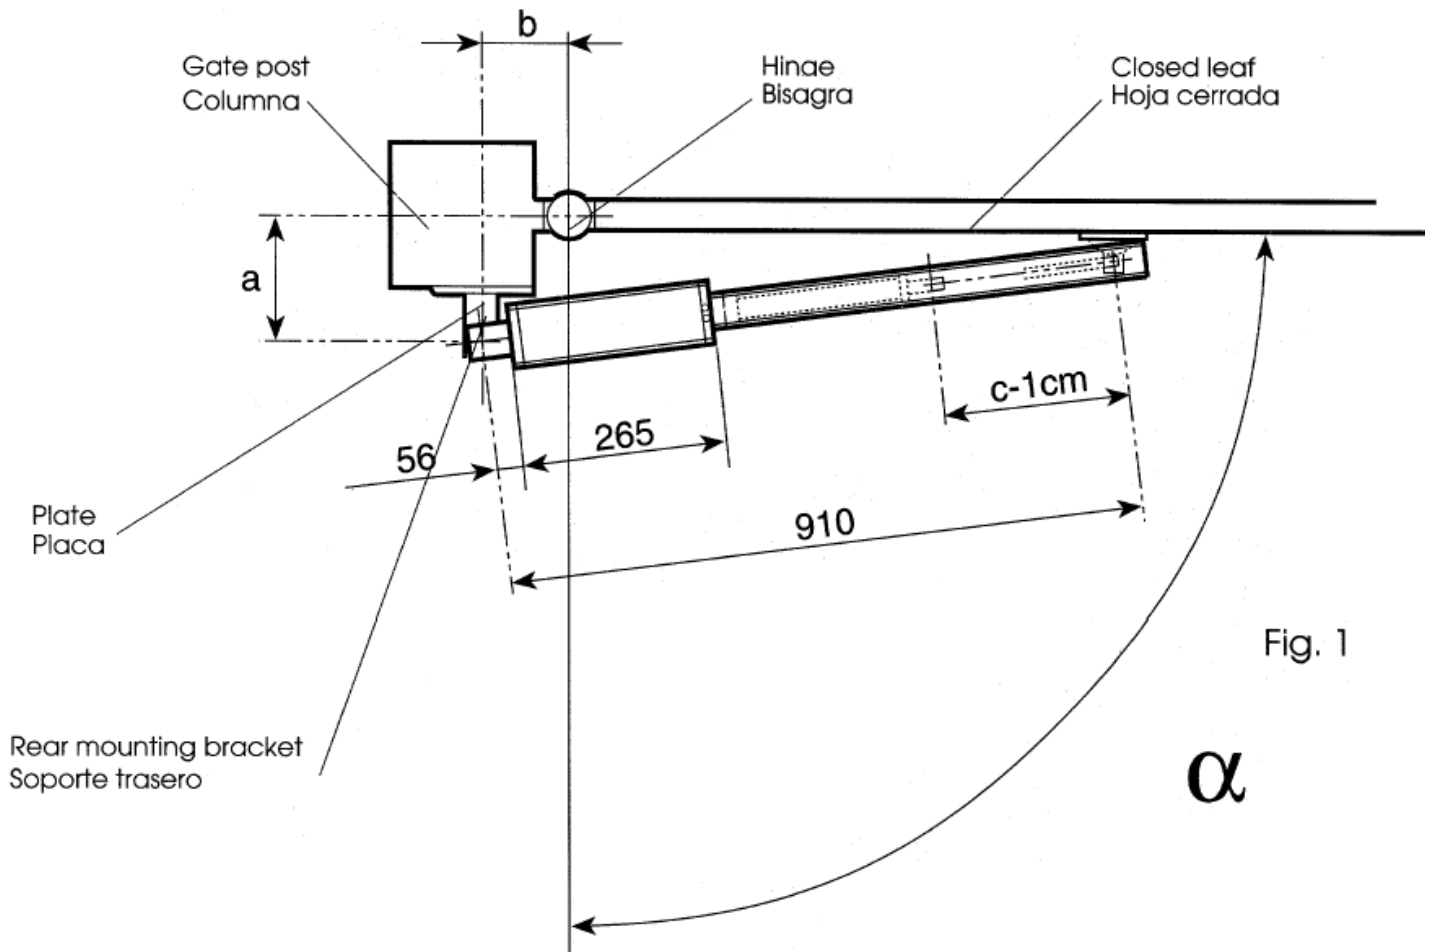

Fig. 1
1) Fix the rear mounting bracket to the gate post as shown in Fig. 1 and Table A.